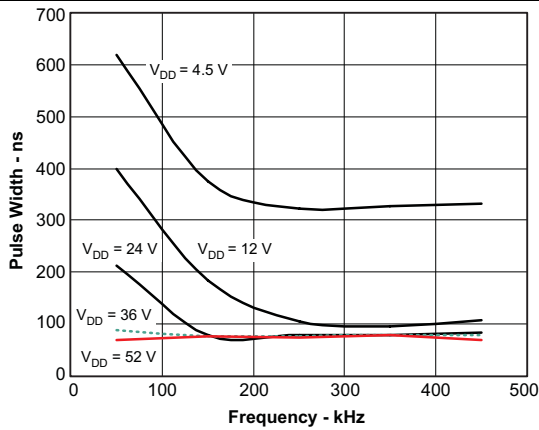

Figure 21. Minimum Controllable Pulse Width vs Frequency
(1) Specified by design
(2) See Figure 21 for typical t_{MIN} vs f_{OSC} at various input voltages.